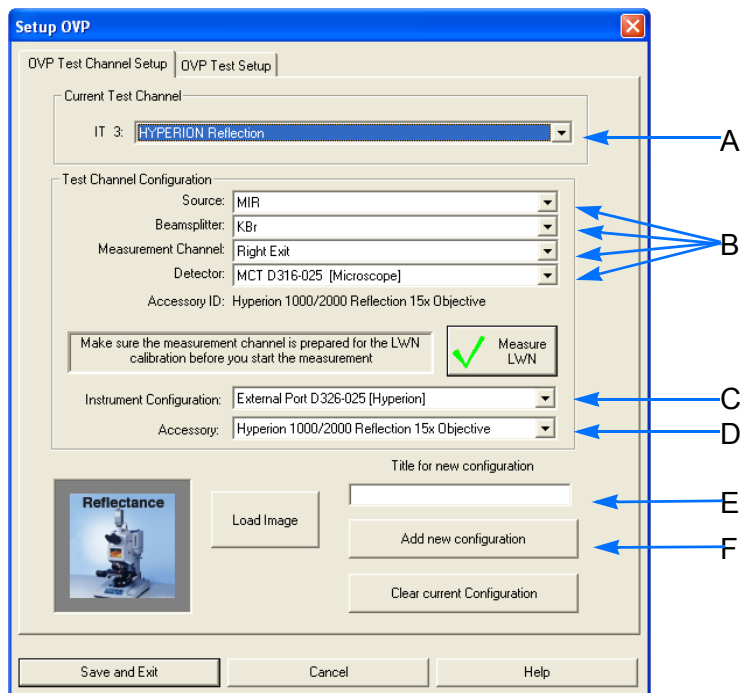
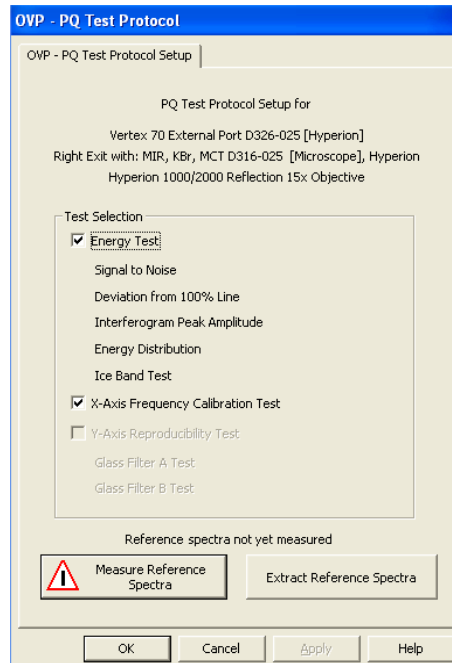

Figure 29: Setup OVP
Figure 34: Setting up the PQ Test Protocol
In case you set up OVP for the first time, enter a descriptive title for the current configuration (e.g. HYPERION reflection) into the entry field *Title for new configuration* (E in figure 29) and click on the *Add new configuration* button (F in figure 29). Moreover, you have to specify the installed source, beamsplitter installed in the spectrometer, the measurement channel (i.e. whether the microscope is coupled to the left or right exit port of the spectrometer) and the detector installed in the microscope (B in figure 29). Then, select the correct option for the instrument configuration (C in figure 29) and the accessory in question (D in figure 29).
In case you have already performed an OVP test and therefore already setup the test channel configuration, you can select the test channel in question from the *Current Test Channel* drop-down list (A in figure 29). In this case, the correct options for *Source*, *Beamsplitter* etc. (B in figure 29) are selected automatically and you need not repeat the measurement of the LWN and the reference spectra.
In case you perform an OVP test for the first time or you have replaced the laser or another optical component you need to measure the laser wavenumber (LWN) by clicking in the *Measure LWN* button. See figure 29. Otherwise, you can leave out this step and proceed with the following section *Setting up the PQ Test Protocol*.
A warning symbol on the *Measure Reference Spectra* button indicates that the reference spectra need to be measured. See figure 34. The cases, in which new reference spectra need to be measured, are listed in the following section.
The necessity for a reference spectra measurement is indicated by a warning symbol on the *Measure Reference Spectra* button. (See figure 34.) Otherwise, you can leave out this step, click in the *Setup OVP* window on the *Save and Exit* button (see figure 29) and proceed with the section *Running the PQ Test*.
- Then, click in the *Setup OVP* window (figure 29) on the *Save and Exit* button.